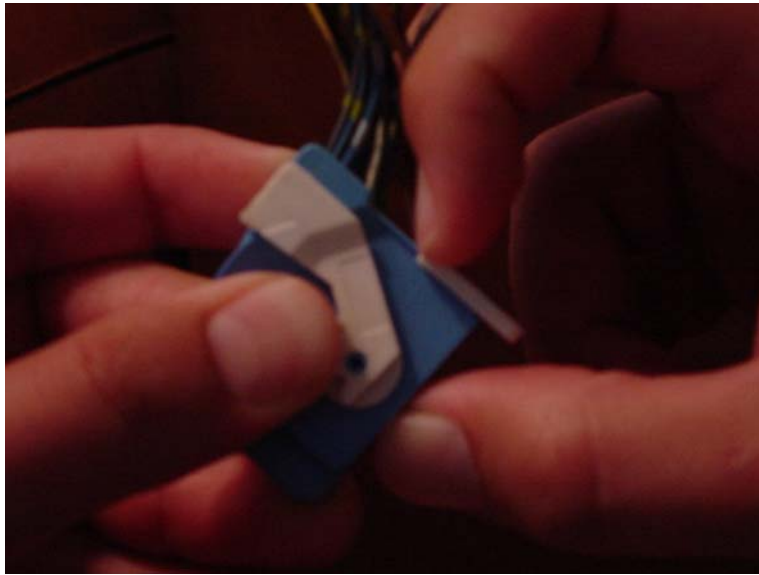

Figure 5 – Step 1 of 3, Remove locking cover to disassemble connector (X17 shown).
- (2) X16/X17 Pin – Based on your car's wiring, you will need ONE of the pins from one of these connectors you acquired. You can select any single pin from either of these connectors. Try to pick one that is similar in size/awg to the wire you plan on splicing to. Both of these connectors can be disassembled in the same three step method. First remove white locking cover by sliding it down (**Figure 5**).